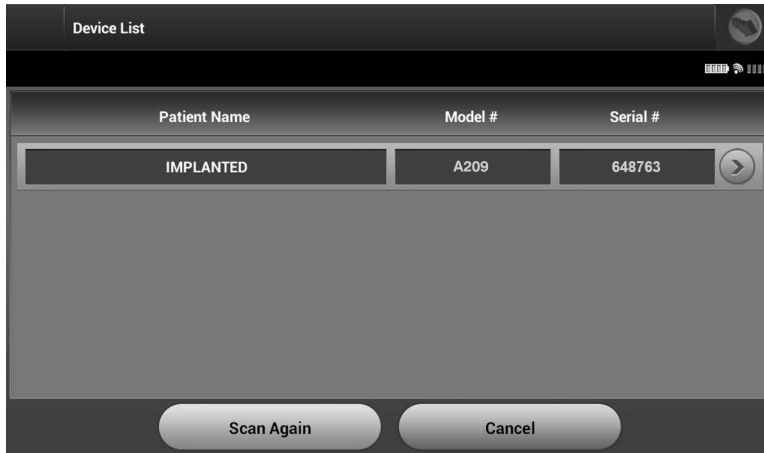

Figure 16: Device List screen (scrollable list)
2. When the scanning process is complete, a list of all pulse generators detected (up to 16) will be displayed on the Device List screen (Figure 16). The devices that are in Shelf mode will be displayed as “Not Implanted.” Any devices that were previously taken out of Shelf mode are displayed either as “Implanted” or with the stored patient name.
Select the desired pulse generator from the Device List screen (Figure 16) to initiate the communication session.